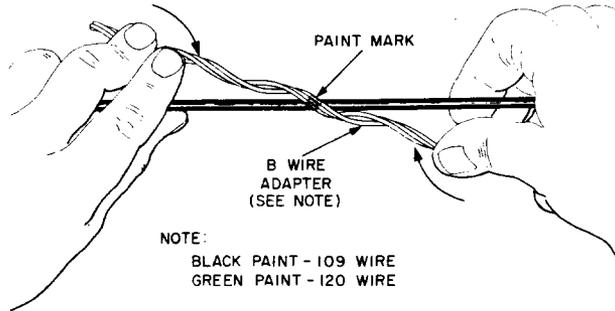

Fig. 3—Installation of B Wire Adapter
- (1) Place the 3-wire set first, starting at the center which is marked by paint, as shown in Fig. 3. Place the 3-wire set (gauge by eye) on the support wire so that it is centered at the terminal clamp nearest the pole (Fig. 1). Wrap the set so it is spiraled around the support wire from the center out to the ends in each direction at once using the thumb